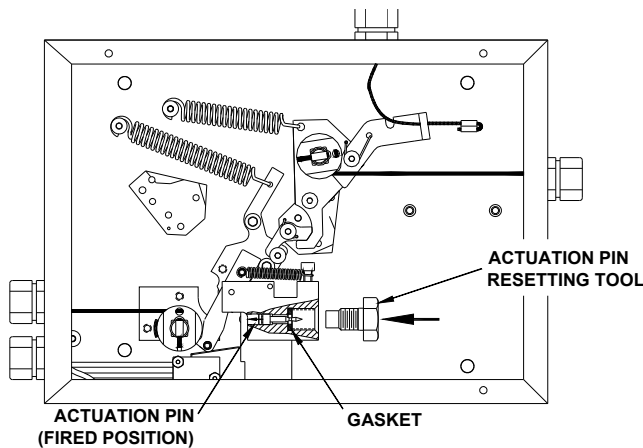

Figure 4-68.
1. Before installing the Nitrogen Cartridge, it is necessary to make sure that the Actuating Pin is moving freely. Insert the **Model BFR-PRT**, Actuation Pin Resetting Tool into the threaded hole of the Manifold Mounting Block where the Nitrogen Cartridge is installed. See **Figure 4-68**.